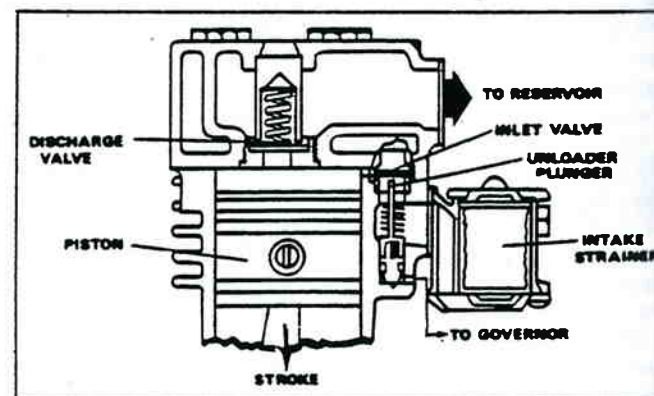
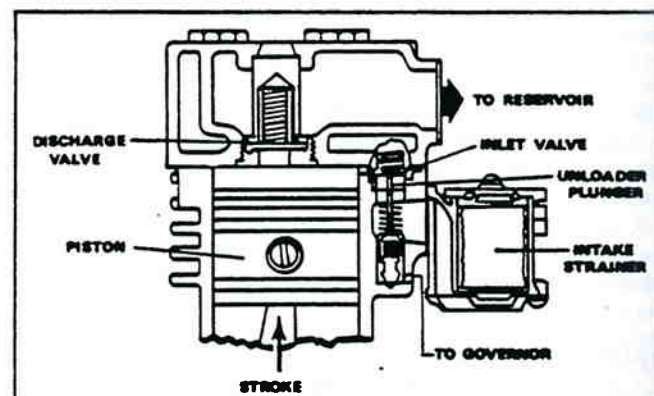

Figure 4-7. Intake Stroke Beginning.
Figure 4-8. Compression Stroke Ending.
**A. INTAKE AND COMPRESSION (Loaded):** During the downstroke of the piston, a slight vacuum created above the piston causes the inlet valve to move off its seat. Atmospheric air is drawn in through the compressor intake, past the open inlet valve, and on top of the piston. See figure 4-7. As the piston starts its upward stroke, the air is compressed. Now, air pressure on top of the inlet valve plus the force of its spring, returns the inlet valve to its seat. The piston continues the upward stroke and compresses the air sufficiently to overcome the discharge valve spring and unseat the discharge valve. The compressed air then flows past the open discharge valve, into the discharge line and on to the reservoirs. Refer to figure 4-8. Intake and compression cycle is repeated.